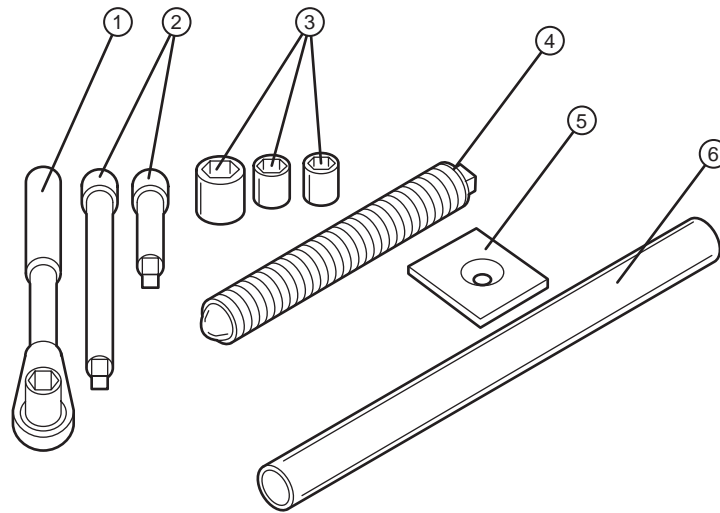
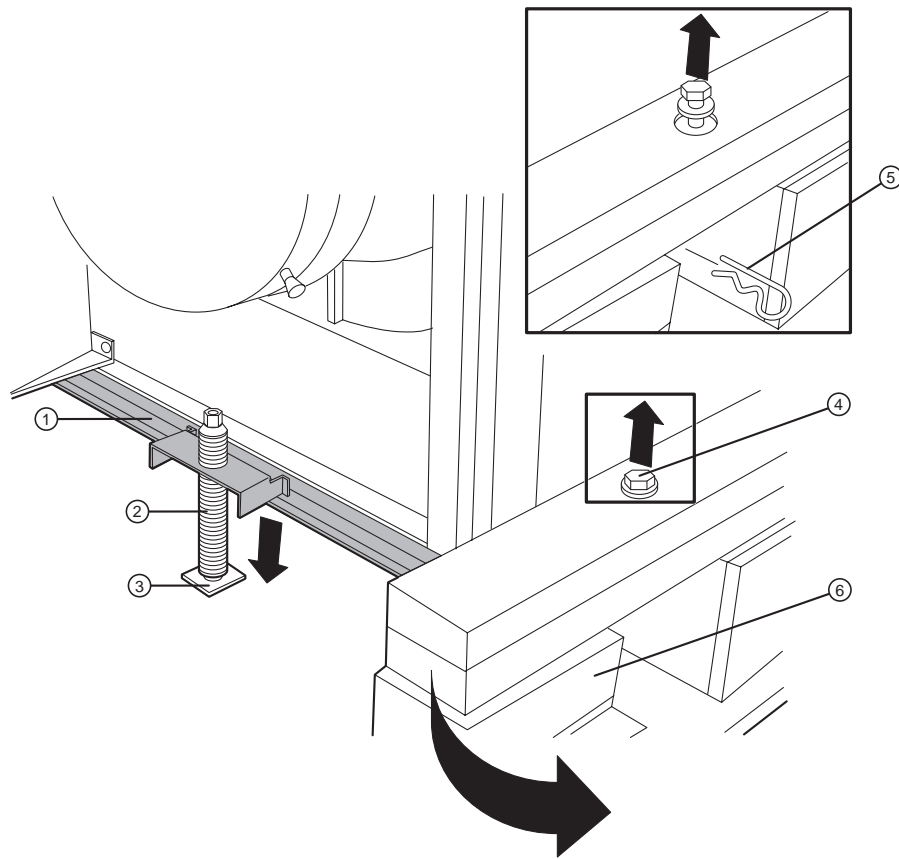

Figure 1-1 The imagesetter tool kit.
Figure 1-7 Using the jack screw and plate for raising the imagesetter (left side).
A tool kit is packed inside the imagesetter crate. Remove the kit at Step 5 below and check it against Figure 1-1.
①—Cardboard covering. ②—Packing straps. ③—Plastic cover.
17. Working within the opened (left) end, position the jack screw provided (see Figure 1-1) in the access hole in the end cap located at the bottom of the frame. Refer to Figure 1-7.
18. Before lowering the jack screw to the floor, position the jack screw plate so that its dimple is directly below the access hole. Refer to Figure 1-7.
- ①—End plate. ②—Jack screw. ③—Jack screw (dimpled) plate.
④—Outer bolt (1 of 2). ⑤—Spring clip. ⑥—Skid.
20. Release the unit from the pallet by removing the two (2) outer bolts and their spring clips. Refer to Figure 1-7.
26. Release the unit from the pallet by removing the two (2) outer bolts and their spring clips. Refer to Figure 1-7.
28. Remove the two (2) steel channels to the right and left by sliding them free.